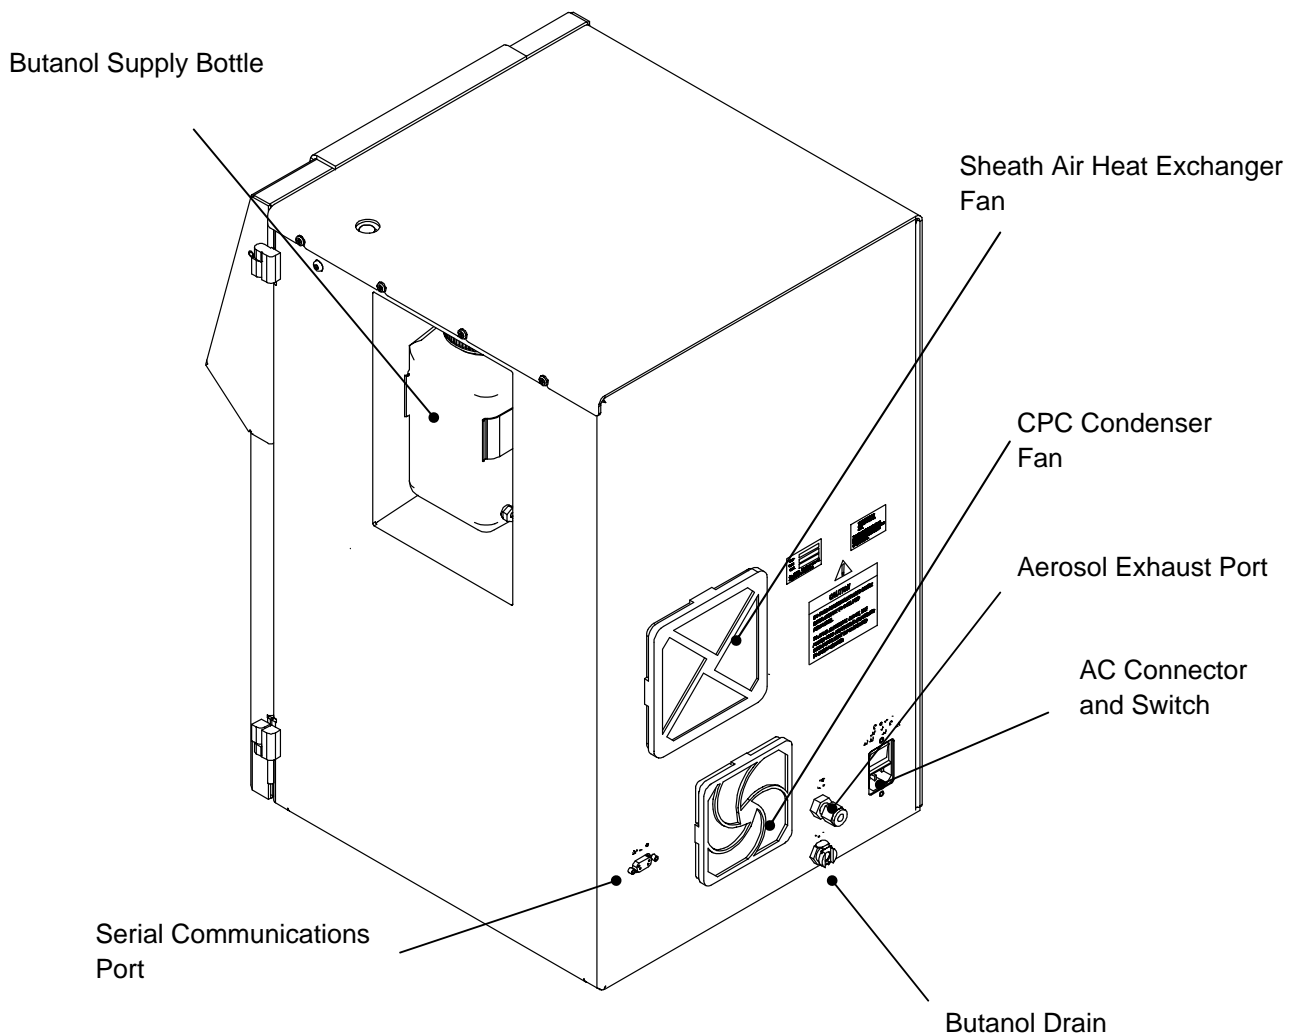

Figure 3-2
- 1.** Find the butanol reservoir bottle from the shipping container or from the recess in the side of the cabinet, if installed (see Figure 3-2). If in the cabinet, carefully pull the bottle straight out, being careful not to stretch the rubber tubing.